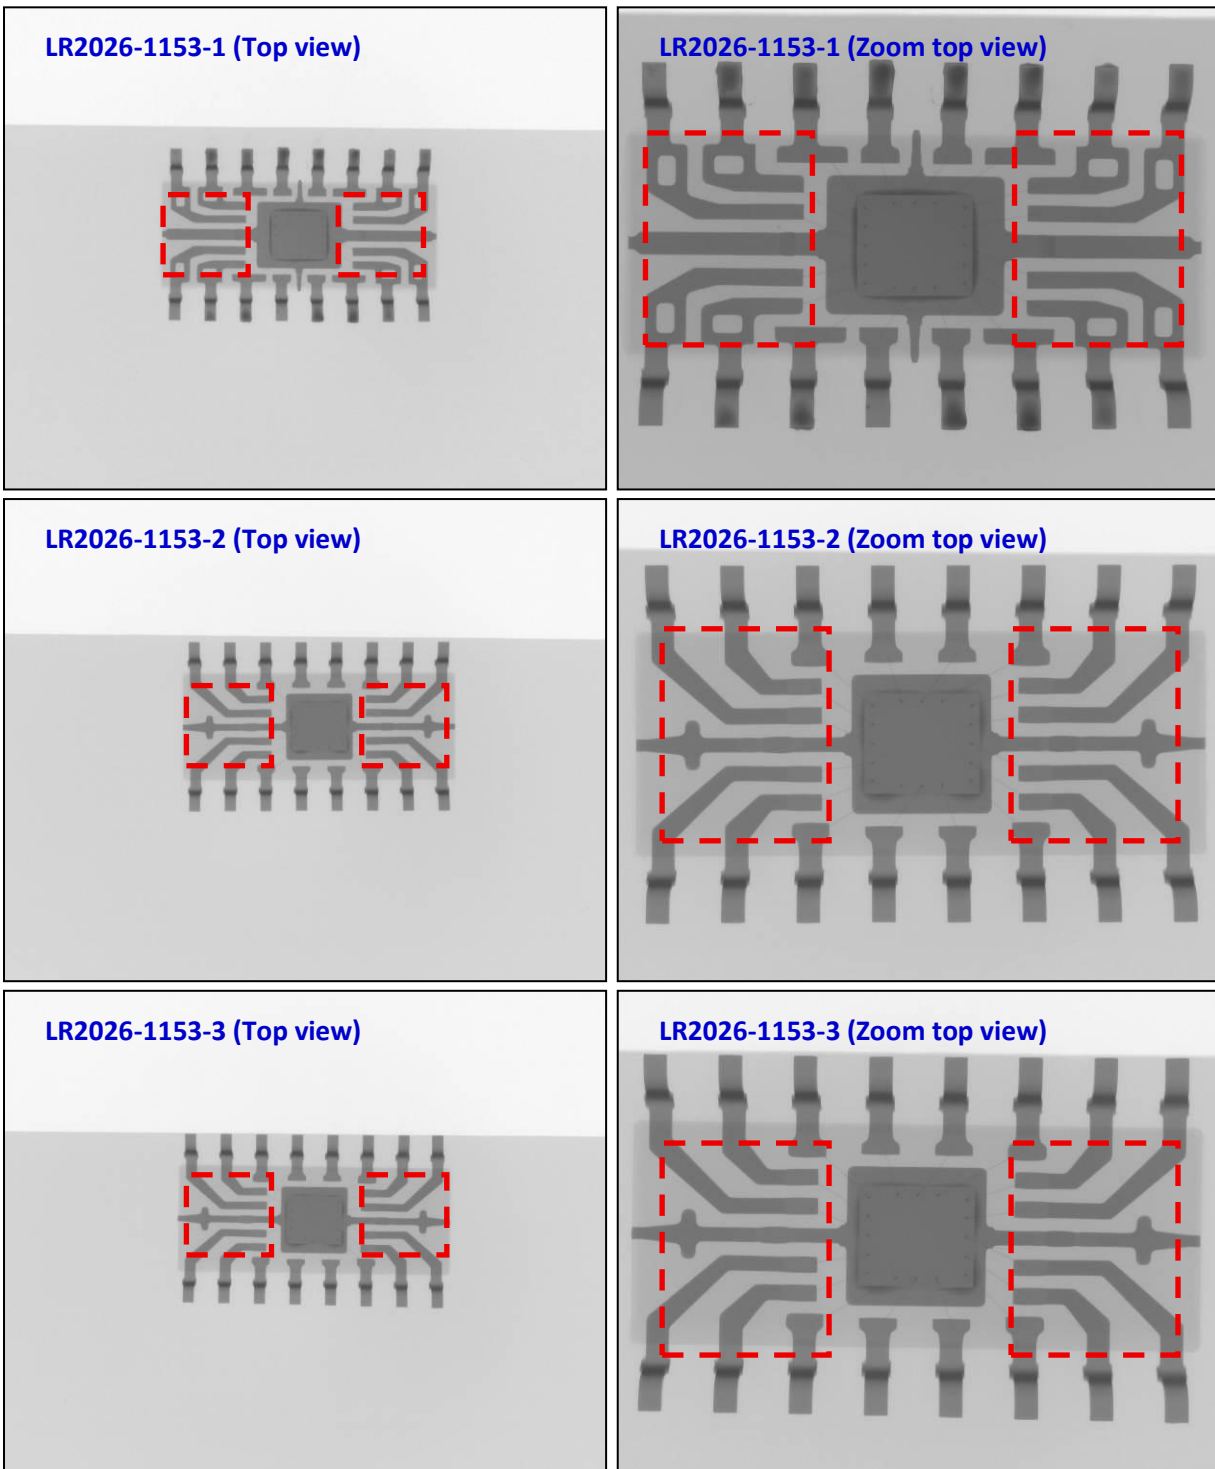
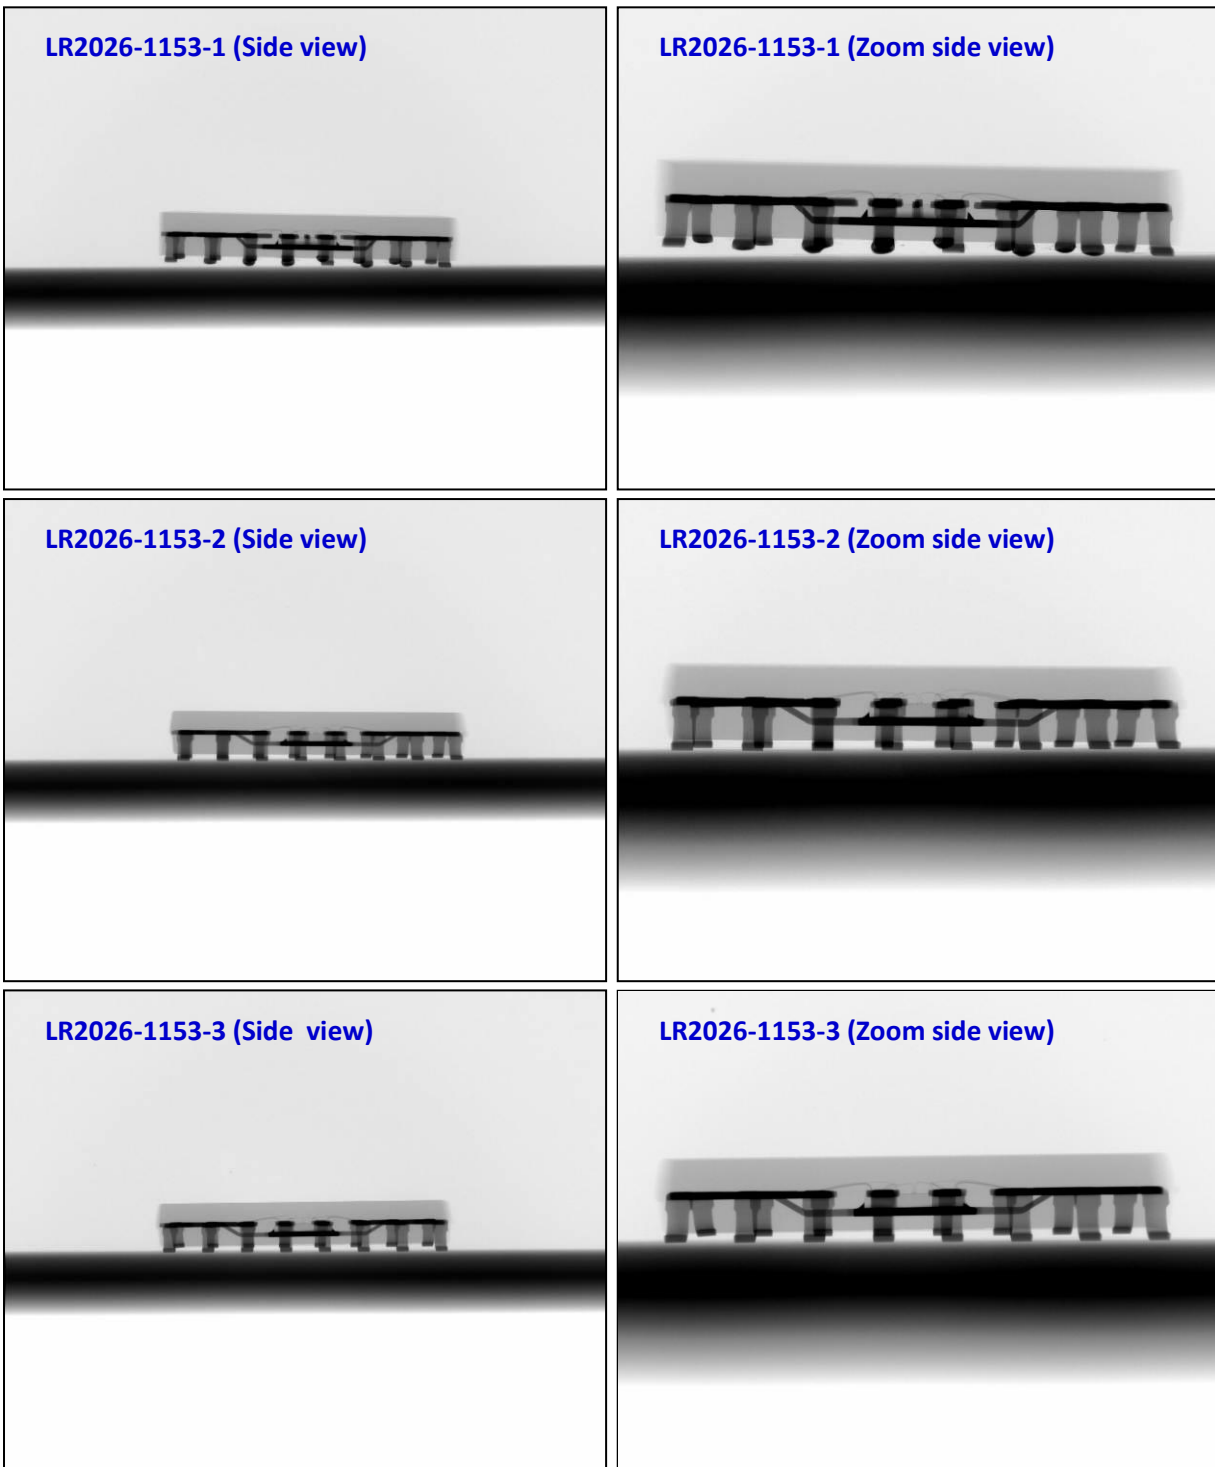

Figure 8: 2D X-ray images showing comparison of internal structure in top view of different lead frames.
Figure 10: 2D X-ray images showing comparison of internal structure in side view.
2. 2D X-ray images of test items between LR2026-1153-1 and LR2026-1153-2 – LR2026-1153-3 indicate **different lead frames** in the internal structure as shown in Figure 8 – Figure 10